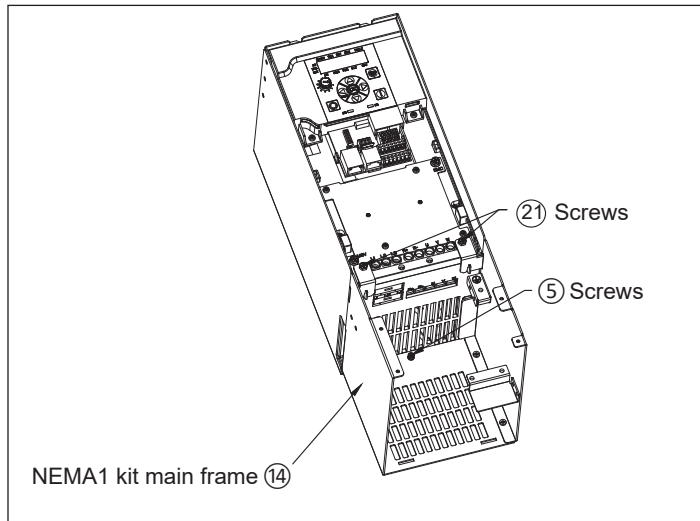

Figure 17. Mounting the main frame to the drive housing.
Mount the NEMA 1 kit main frame (14) to the drive housing with screw (5) and two screws (21) (see Figure 17).